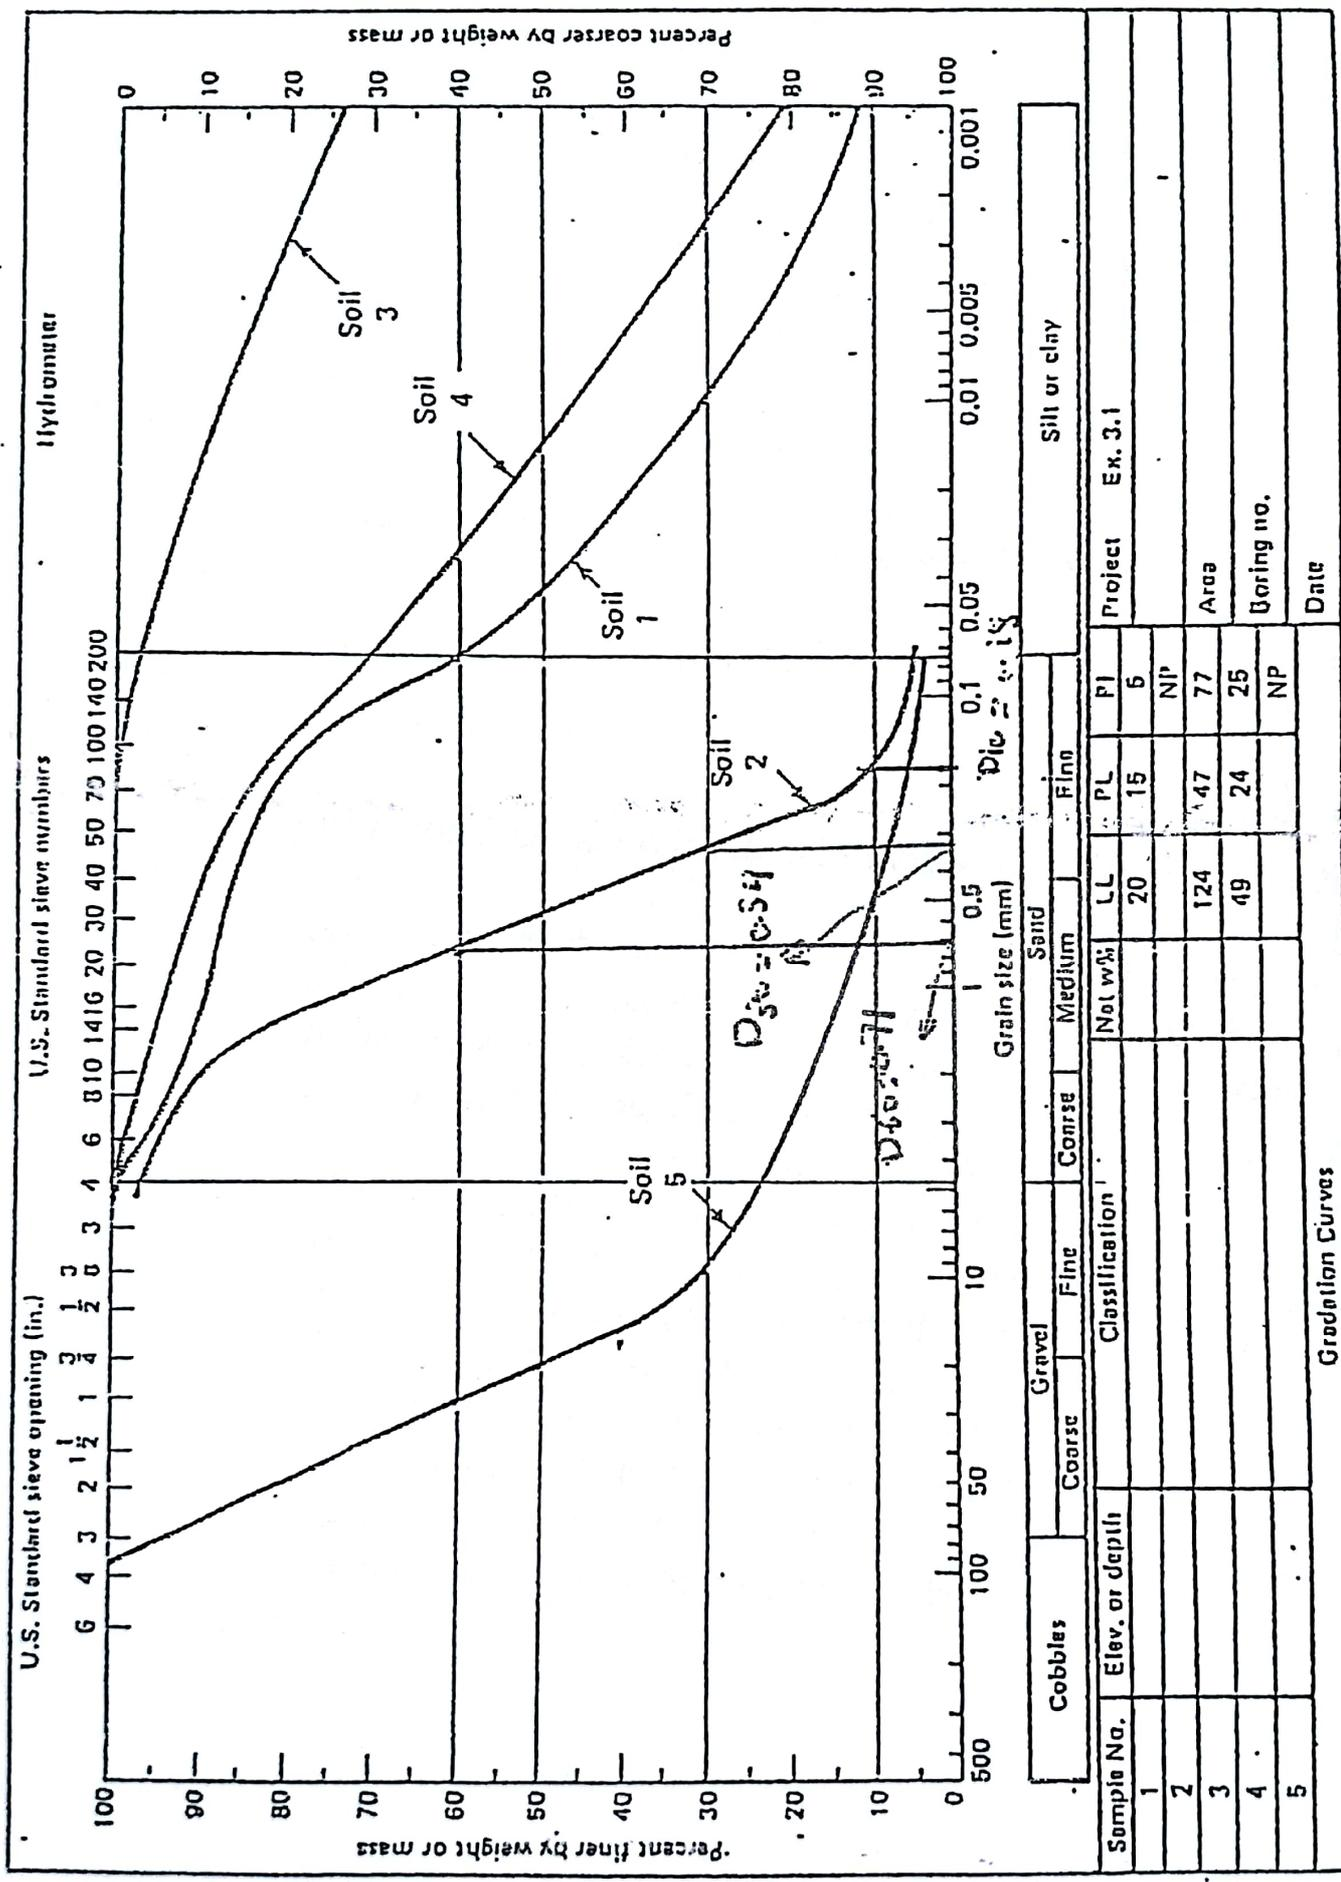

Fig. Ex. 3.1
1. Plot the grain size distribution curves for the three soils (shown in Fig. Ex. 3.1).
3. Soil 2 is immediately seen to be a coarse-grained soil since only 5% passes the No. 200 sieve. Since 97% passes the No. 4 sieve, the soil is a sand rather than a gravel. Next, note the amount of material passing the No. 200 sieve (5%). From Table 3-2 and Fig. 3.4, the soil is "borderline" and therefore has a dual symbol such as: SP-SM or SW-SM depending on the values of C_u and C_c . From the grain size distribution curve, Fig. Ex. 3.1, we find that $D_{60} = 0.71$ mm, $D_{30} = 0.34$ mm, and $D_{10} = 0.18$ mm. The coefficient of